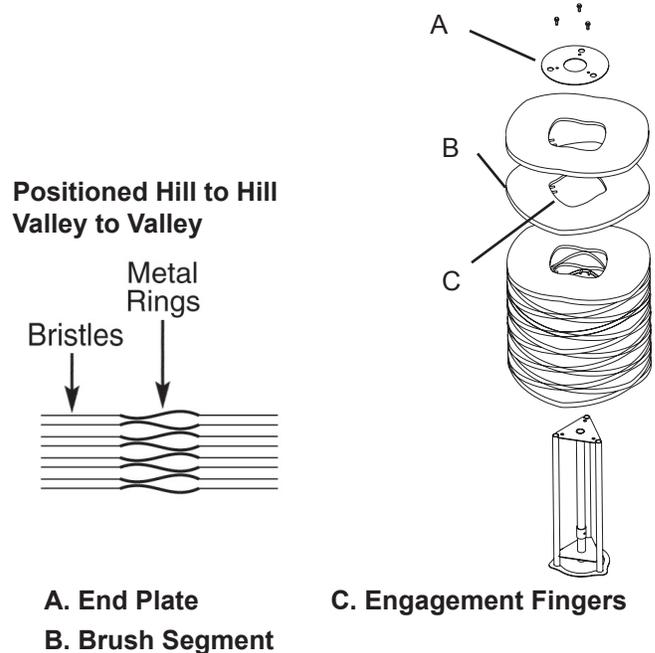

Figure 20 Brush Assembly
- Stand broom assembly on one end. (See Figure 20 Brush Assembly)
- Remove the three bolts from the end plate (See A, Figure 20 Brush Assembly).
NOTE: Align segment engagement fingers (C, Figure 20 Brush Assembly) on alternating support shafts. This will evenly spread rotating force through the drive system.